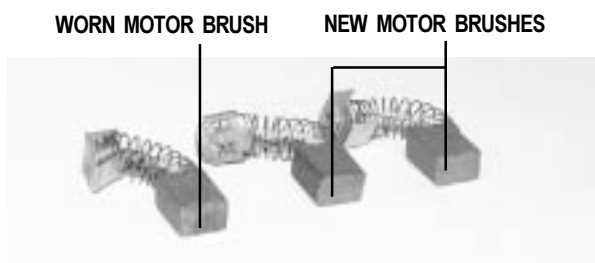

Figure 34. Motor Brushes
3. Inspect for wear. See figure 34.